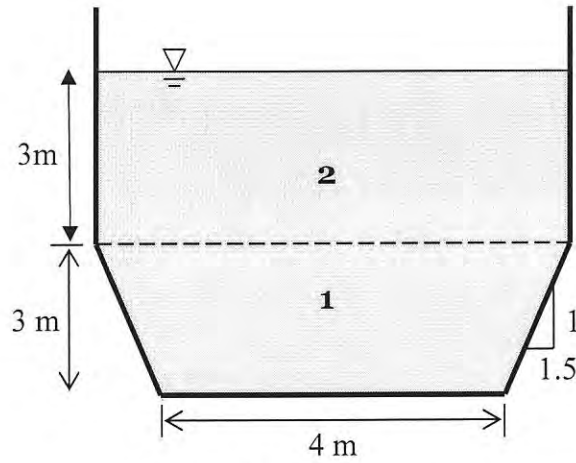

FIGURE Q3(d). Compound channel
- Q3** (a) Discuss **TWO (2)** situations of viscosity effect to flow on the following state condition:-
- (d) A compound channel as shown in **FIGURE Q3(d)** is designed to convey $9.154 \times 10^5 \text{ in}^3/\text{s}$ of water with kinematic viscosity of water (ν) of $1.004 \times 10^{-6} \text{ m}^2/\text{s}$. Determine top surface width (T), flow area (A), wetted perimeter (P), hydraulic depth (D) and state of flow based on Froude number.
- Q4** (a) Give **TWO (2)** differences between open channel flow and pipe flow.
- (b) Explain **TWO (2)** factors affecting velocity distribution in open channels.